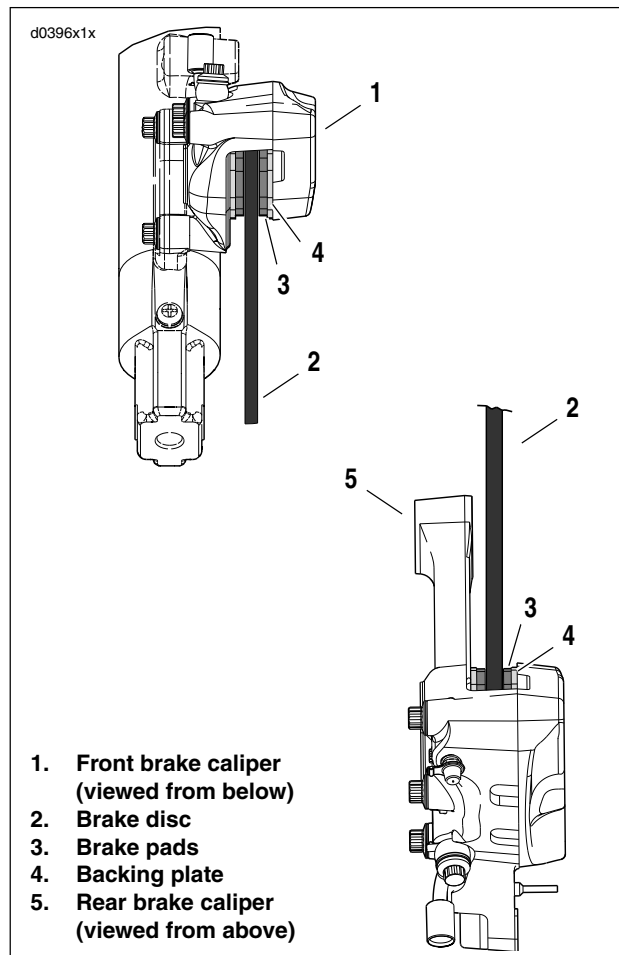

Figure 1-16. Brake Pad Inspection
See Figure 1-16. Replace brake pads (3) if brake pad friction material on either the front or rear caliper is worn to service limit. Always replace both pads in a caliper as a set.
- FLSTS/FXSTS front brake pads: 0.06 in. (1.6 mm) or less above the backing plate (4).
- All other brake pads: 0.04 in. (1.02 mm) or less above the backing plate (4).